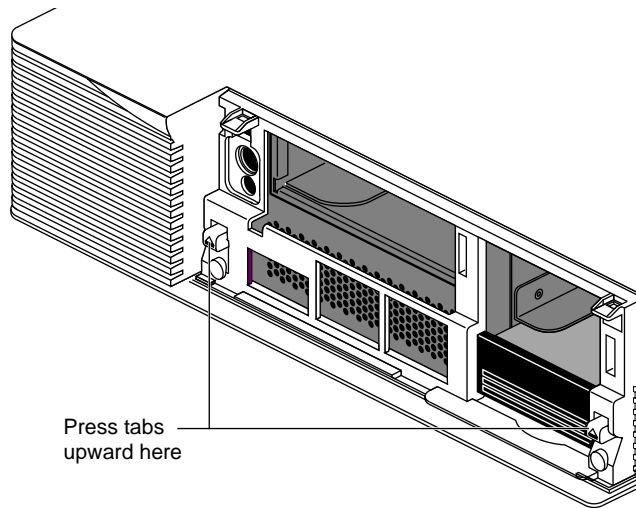

Figure 2-6 Releasing the Top Cover
- Press up on the tabs on each side of the drive openings as shown in Figure 2-6.